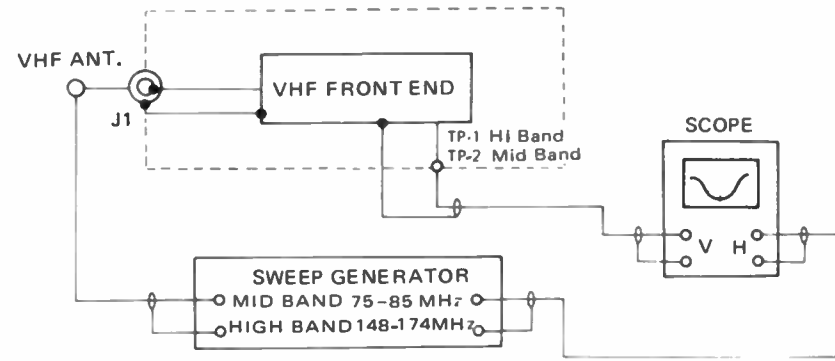

FIGURE 7
Step 1: Connect instruments as shown in Figure 7.